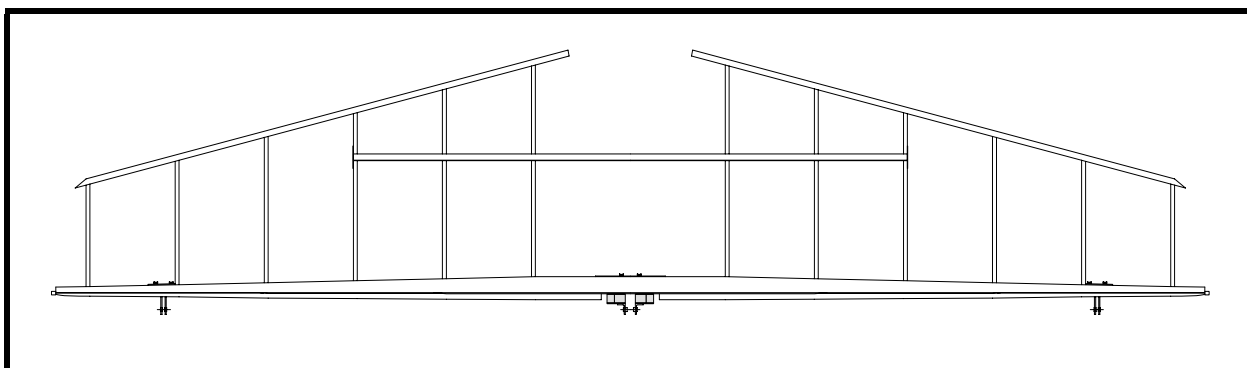

Figure 9
- ☐ Fit the leading edge strip to the ribs and clamp in place. See Figure 9. Check the stabilizer for alignment. See Drawing No. 402 for the dimensions for the leading edge strip.